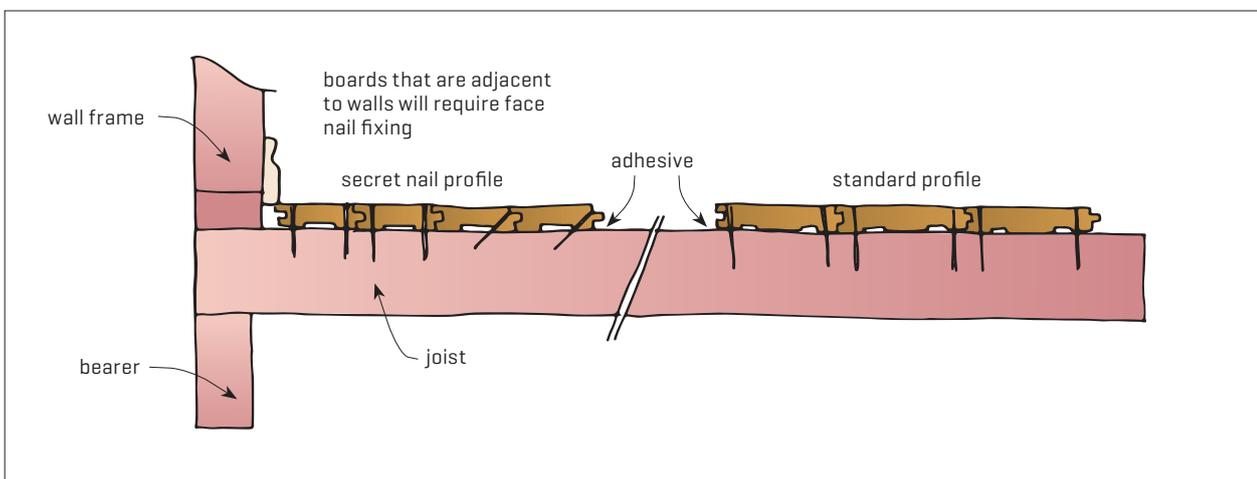

Figure 10. Face nailing and secret fixing.
- Use one nail fixed 10–15 mm from the tongue edge of the board at each joist for boards 75 mm or narrower and two nails per board for boards wider than 75 mm [Figure 10].
- Skew nail the board through the top of the tongue once it is tightly fitted (Figure 10).